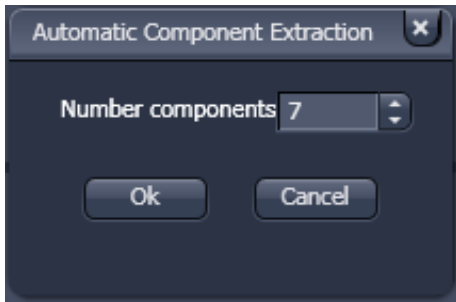

Fig. 6-103 ACE, number of components selection window
- Select the number of components in the sample and click **Ok** (Fig. 6-103).